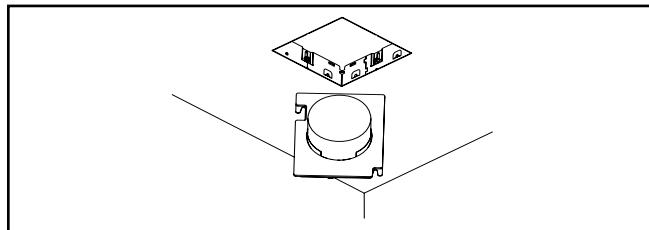

Figure 5.
2. Insert MA4 access door / transformer combination into platform and position door to replace original door (transformer facing outward). Slide door to the left and tighten thumb screws to secure in place (Figure 1.). For through aperture installation, pass access door / transformer through aperture (Figure 5.) and install as described above.